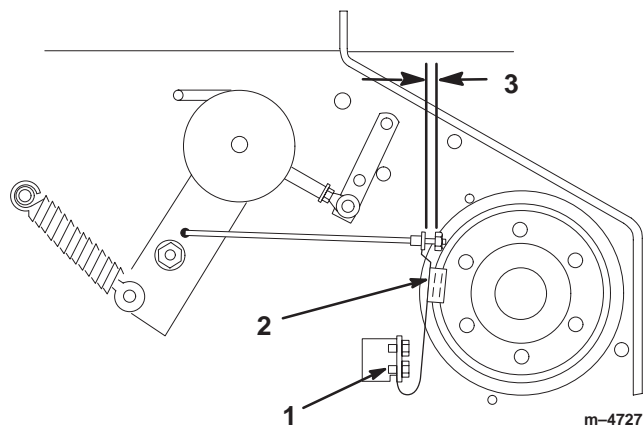

Figure 50
- If necessary, adjust the spring mounting bolts so that the blade brake pad rubs against the pulley edges (Fig. 50).
- Adjust the nut at the end of the blade brake rod until there is 1/8–3/16 in. (3mm–5mm) between the nut and spacer (Fig. 50).